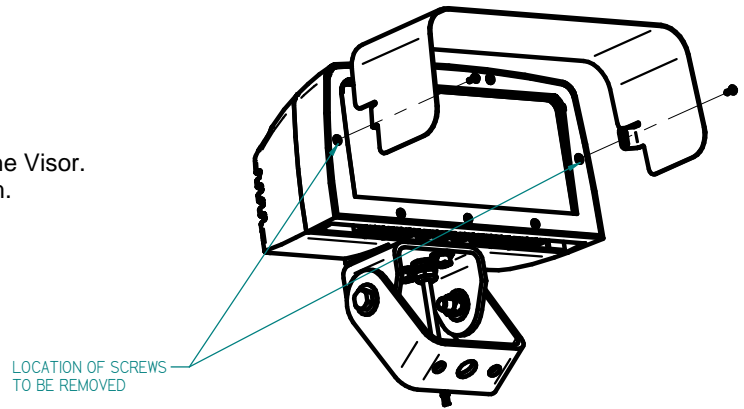

Fig. 2: Mounting The Visor
Mounting The Visor (See Fig. 2)
- Remove the two screws at the locations shown in Fig. 2.